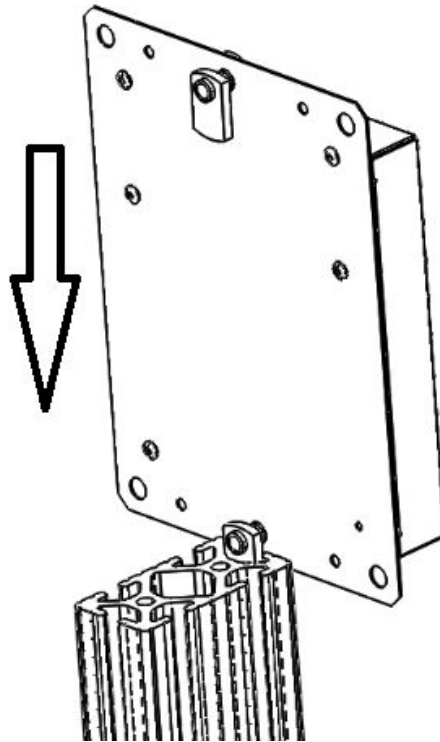

Figure 4.37: Main board with fastener sliding on the vertical beam
- ❑ You may have to open a part of your enclosure to allow your main board to slide on the vertical beam. Fix it at the height you want as shown in Fig. 4.37.